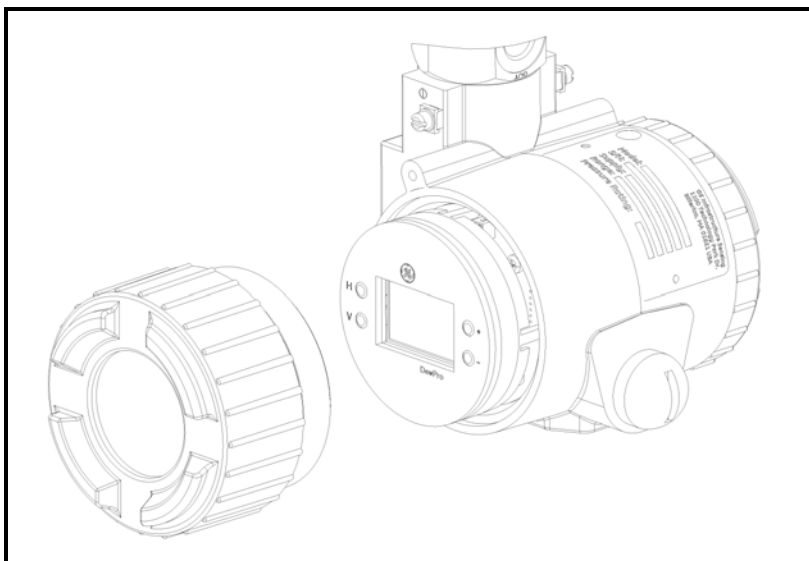

Figure 4-1: DewPro with Display Assembly
1. Unscrew and remove the protective window lid from the top of the DewPro (as shown in Figure 4-1 above), exposing the display module below. The buttons V, H, + and - are now accessible.